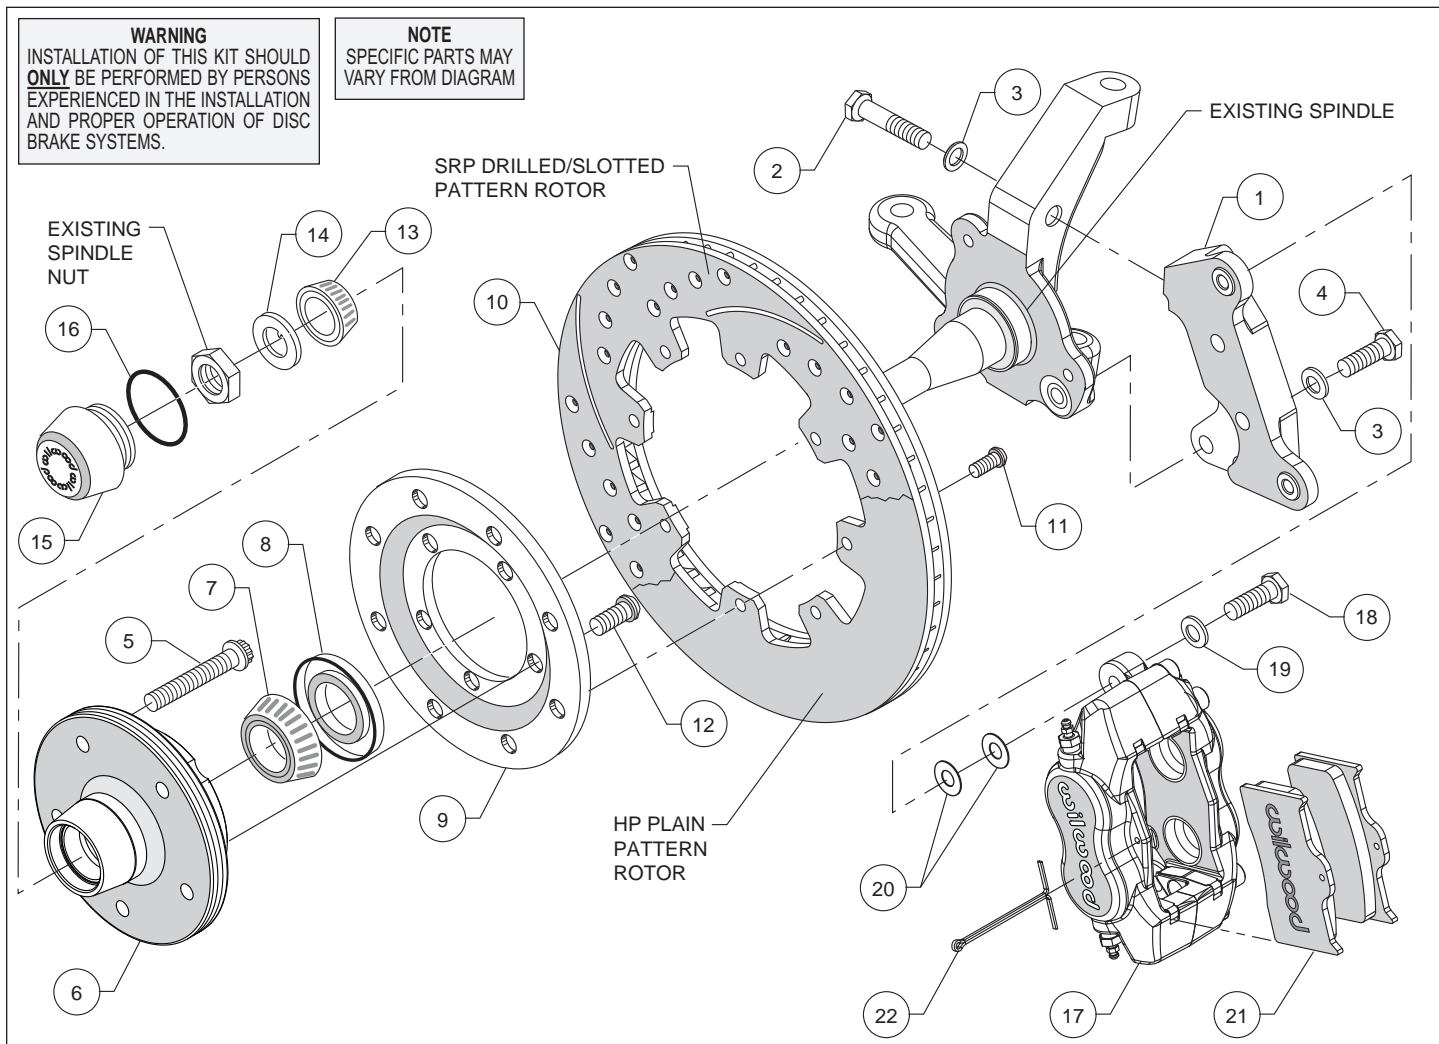
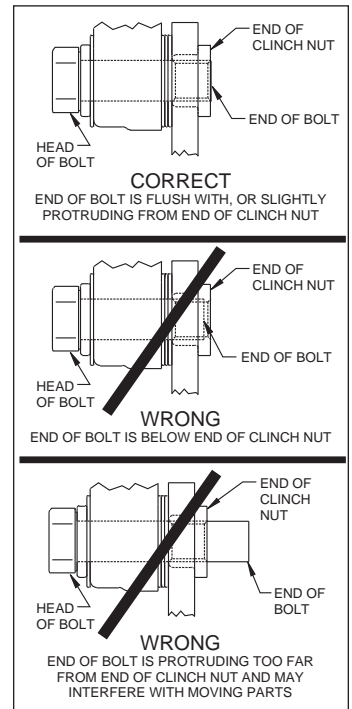

Figure 1. Typical Installation Configuration
Figure 3. Clinch Nut Engagement Diagram
Assembly Instructions (numbers in parenthesis refer to the part lists, and Figure 1):
CAUTION: All mounting bolts must fully engage insert nuts. Be sure to check that all bolts are either flush or protruding through flanged side of insert nut after shimming, Figure 3.
- Orient the caliper mounting bracket (1) on the inboard side of the spindle as shown in Figure 1. Install bracket using bolts (2 and 4), and washers (3), Figure 1. Ensure that the flanged heads of the clinch nuts in the bracket are facing outboard. Temporarily tighten the mounting bolts. **NOTE:** *The bracket must fit squarely against the mounting points on the spindle.* Inspect for interference from casting irregularities, machining ridges, burrs, etc. Remove bolts one at a time, apply red *Loctite*® 271 to threads, and torque bolts to 55 ft-lb.
- Install wheel studs (5) into the hub (6), Photo 1. Torque to 77 ft-lb.
- Pack the large inner bearing cone (7) with high temperature disc brake bearing grease (available from your local auto parts store) and install into the backside of the hub (6), Photo 2.
- Install the grease seal (8) by pressing into the backside of the hub (6), flush with the end of the hub, Photo 2.
- Orient the rotor (10) and the rotor adapter (9) as shown in Figure 1 and Photo 3. Attach the rotor to the adapter using bolts (11). Using an alternating sequence, apply red *Loctite*® 271 to the threads, and torque to 25 ft-lb.
- Mount the adapter/rotor assembly (9 and 10) to the hub (6) using bolts (12), as shown in Figure 1 and Photo 4. Using an alternating sequence, apply red *Loctite*® 271 to the threads, and torque to 45 ft-lb.
- NOTE:** Please reference the caution statement at the beginning of the assembly instructions. Mount the caliper (17) onto the caliper mounting bracket (1) using bolts (18) and washers (19), as shown in Figure 1. Initially place two .035" thick shims (20) on each bolt between the caliper and the bracket, Photo 7. Temporarily tighten the mounting bolts and view the rotor (10) through the top opening of the caliper. The rotor should be centered in the caliper, Photo 8. If not, adjust by adding or subtracting shims between the bracket and the caliper. Always use the same amount of shims on each of the two mounting bolts. **NOTE:** The end of each bolt must be flush with or slightly protruding from the head of the clinch nut, as shown in Figure 3. If necessary place spare shims between washer (19) and caliper mounting ear to achieve the proper clinch nut engagement. Once the caliper alignment and clinch nut engagement are correct, remove the bolts one at a time, apply red *Loctite*® 271 to bolt threads, and torque to 40 ft-lb.